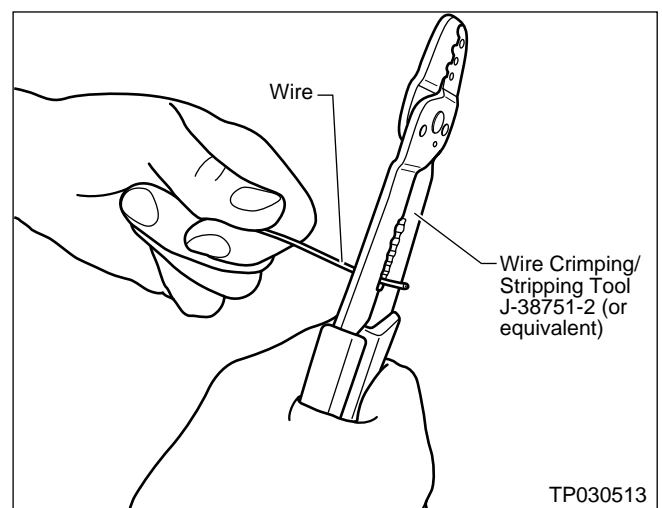

Figure 1
4. Use essential Wire Crimping/Stripping Tool #J-38751-2 (or equivalent) to strip off about 10mm of insulation from the ends of the wires (on the vehicle wire harness side and on the replacement connector wires). See Figure 1. Then, firmly twist the exposed wire strands (on each wire).